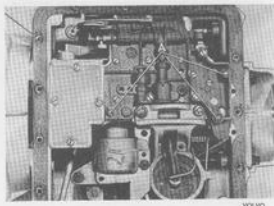

Fig. 4-90. Valve bodies assembly
4. Disconnect the downshift valve cable from the downshift valve cam. Unscrew the three screws which retain the valve bodies assembly to the transmission case, see Fig. 4-90. Lift the valve bodies assembly straight up so that it releases from the oil tubes at the front end.